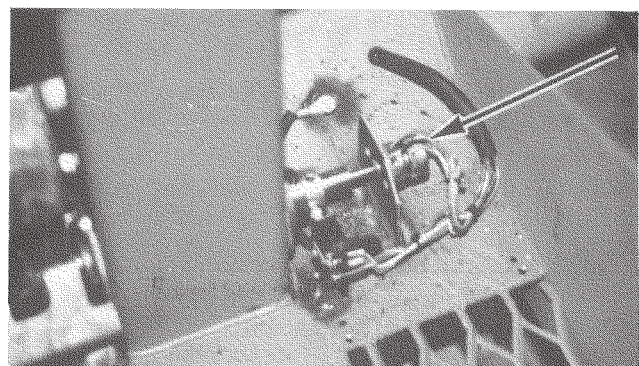

Figure 36. Limit Switch
7. Depress override pedal slowly until all wheels stop rotating. With pedal held in that position, adjust the micro switch roller so that it just trips the switch. (Figure 36)